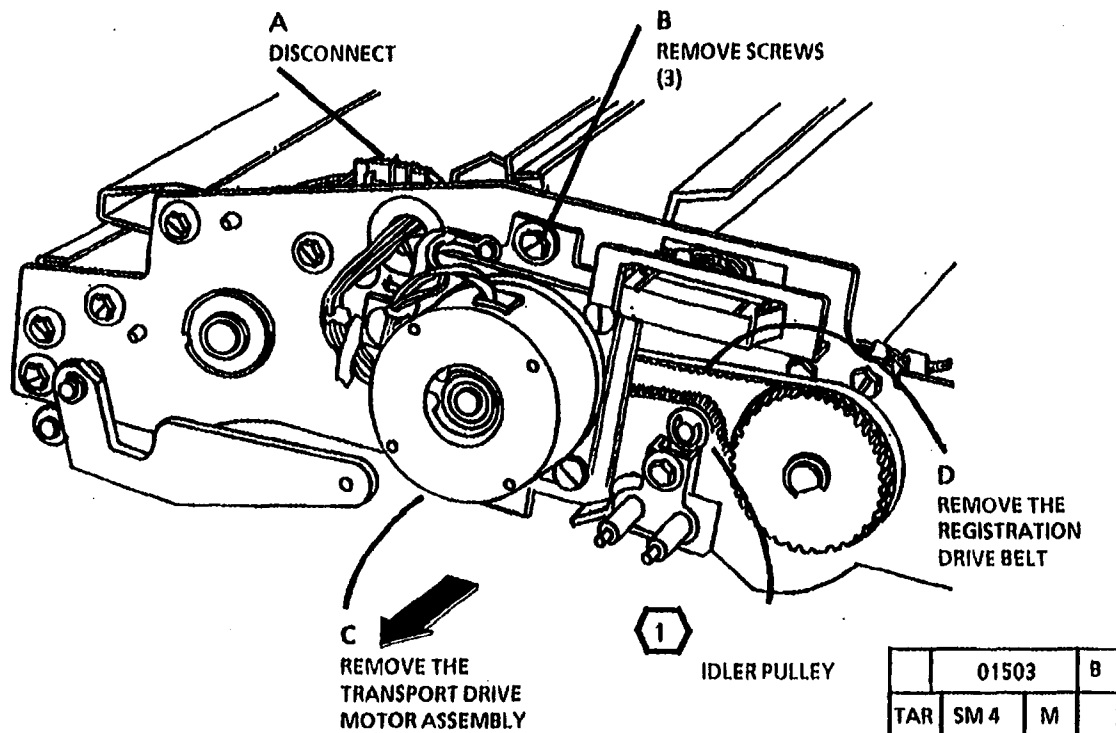

Figure 1. Remove the Media Feed Drive Belt
6. (Figure 1): Remove the Media Feed Drive Belt.
**1** Refer to Figure 1 in the Removal and ensure that the belt is installed over the idler pulley.